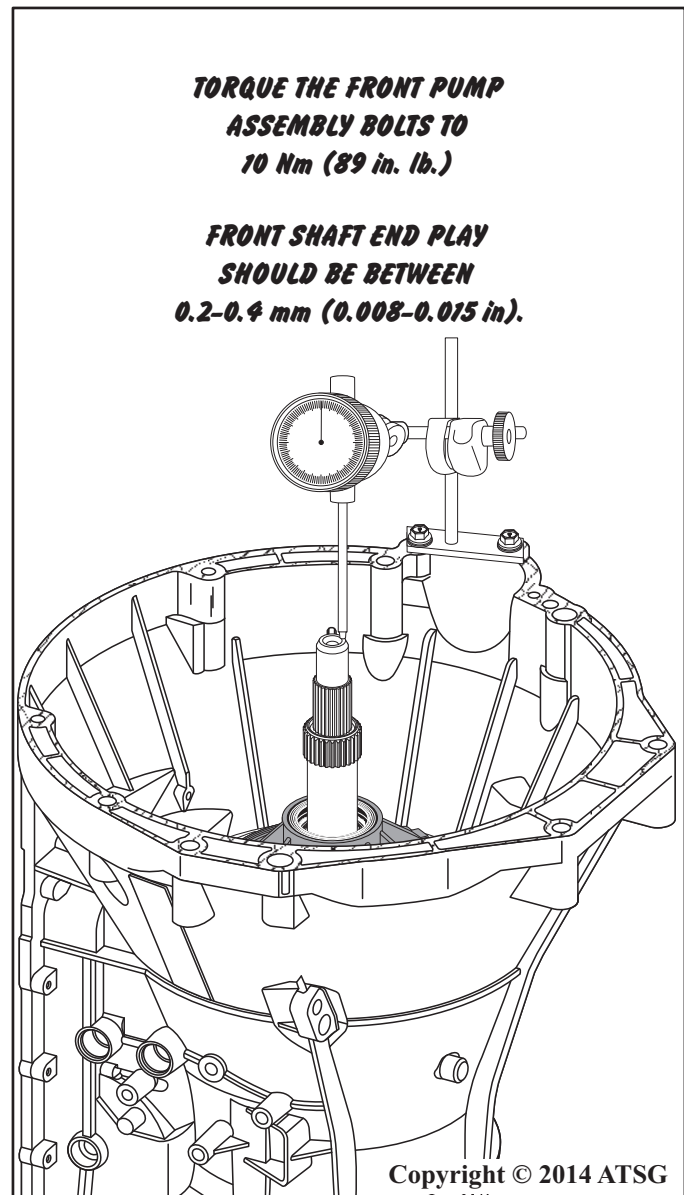

Figure 145
33. Using a torque wrench, torque the thirteen front pump assembly retaining bolts in a crisscross pattern to 10 Nm (89 in. lb.) as shown in Figure 145.
34. After the pump bolts are properly tightened, install a dial indicator onto the turbine shaft and check the front shaft end play as shown in Figure 145. Front shaft end play should be between 0.2-0.4 mm (0.008-0.015 in).